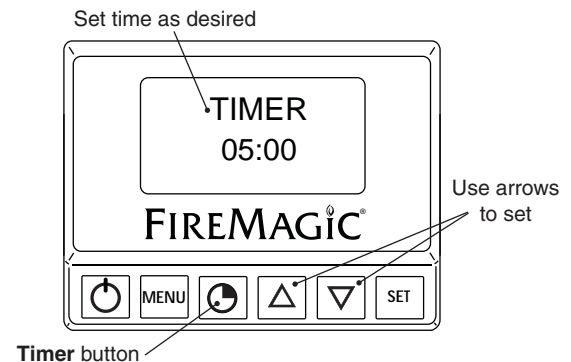

Fig. 19-1 Timer screen
1. Press the timer button. Use the arrows to set the desired amount of time (see Fig. 19-1.)